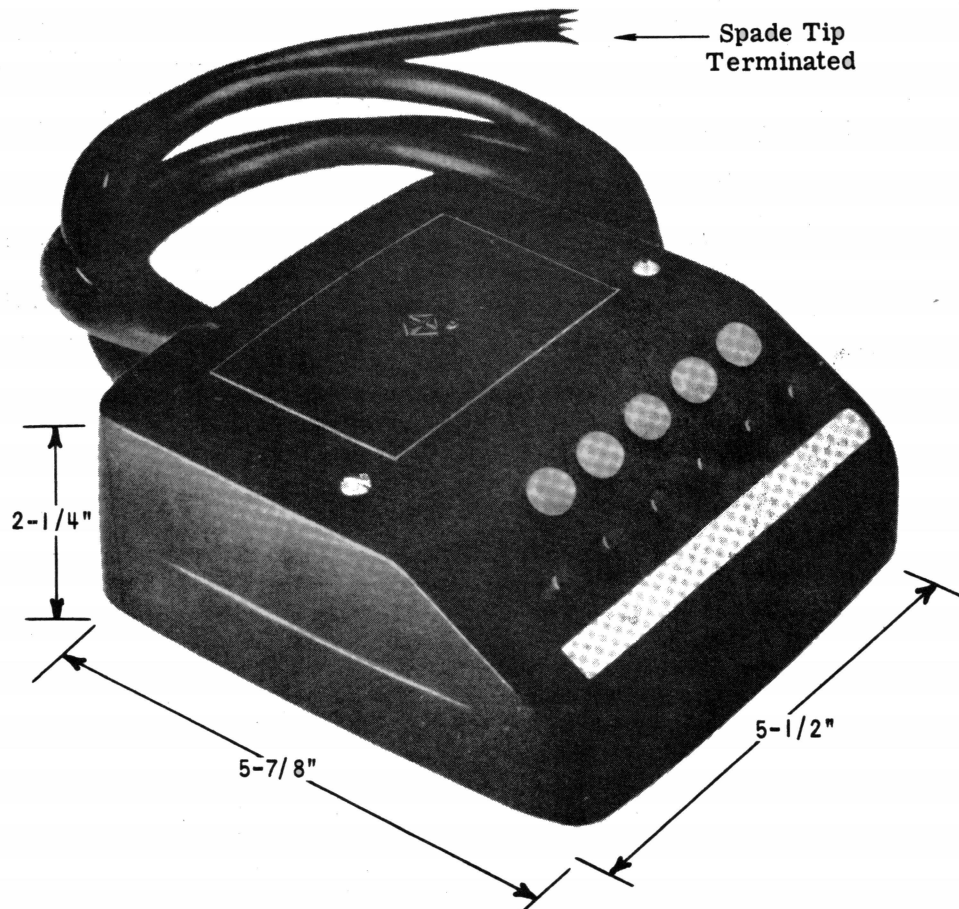

Figure 1. Type 86A Key Telephone Adapter
1.02 The 86A key telephone adapter (see Fig. 1) contains keys, lamps, and termination facilities for adapting a standard desk or wall telephone to key telephone operation. The 86A adapter is designed for use with the A.E.Co. key telephone system type 10A1 (or W.E.Co. type 1A1). The 86A adapter can be converted for use with the A.E.Co. 10A key telephone system (or W.E.Co. type 1A) by following the instructions in note 2 of Fig. 5.